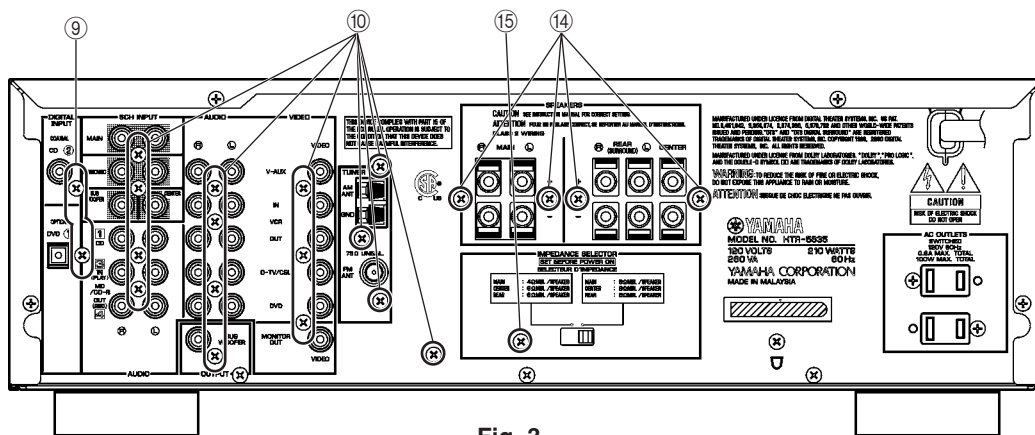
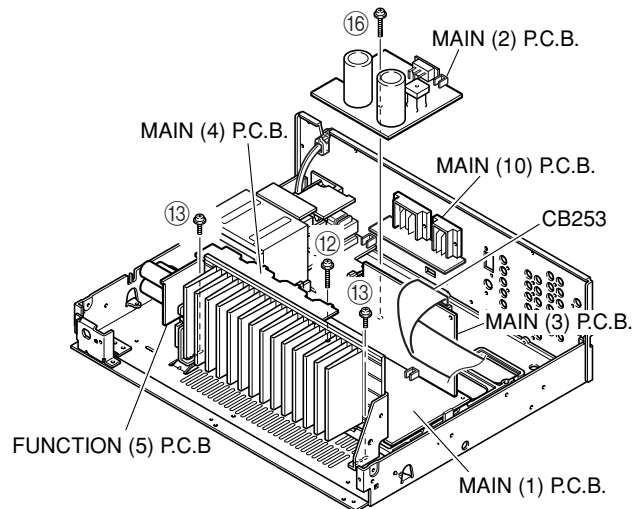

Fig. 3
Fig. 6
- Remove 2 screws (9). (Fig. 3)
- b. Remove 15 screws (10). (Fig. 3)
6. Removal of MAIN (1), MAIN (3), MAIN (4) and FUNCTION (5) P.C.B.s
- a. Remove CB253. (Fig. 6)
- b. Remove 1 screw (12) and 2 screws (13). (Fig. 6)
- c. Remove MAIN (1), MAIN (3), MAIN (4) and FUNCTION (5) P.C.B.s. (Fig. 6)
7. Removal of MAIN (10) and MAIN (2) P.C.B.s
- a. Remove 4 screws (14). (Fig. 3)
- b. Remove MAIN (10) P.C.B.. (Fig. 6)
- c. Remove 1 screw (15). (Fig. 3)
- d. Remove 1 screw (16). (Fig. 6)
- e. Remove MAIN (2) P.C.B.. (Fig. 6)
- b. Remove 1 screw (⑫) and 2 screws (⑬). (Fig. 6)